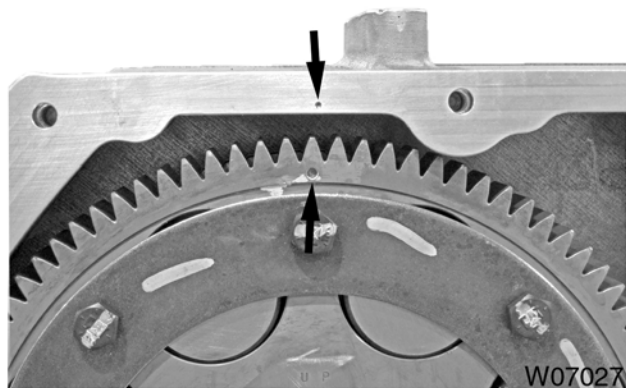

Figure 16 Camshaft Timing Marks
21. Verify camshaft timing mark and front cover marks are aligned (Figure 16).